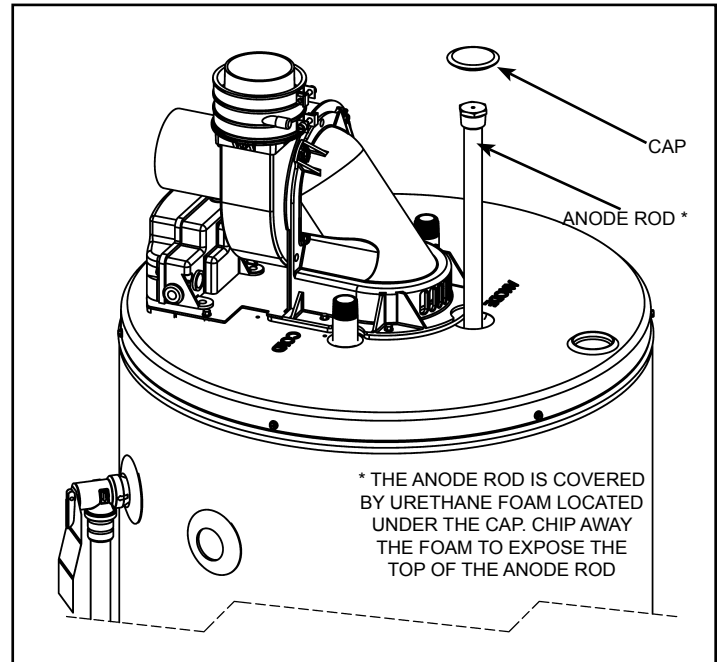

Figure 39
6. Remove the anode cap on top of the heater and remove just enough insulation so you can access to the anode head (Figure 39). Keep in a safe place for reinstallation later.
7. Remove the anode rod by using a ratchet and a 1-1/16" socket turning counter-clockwise (Figure 39).